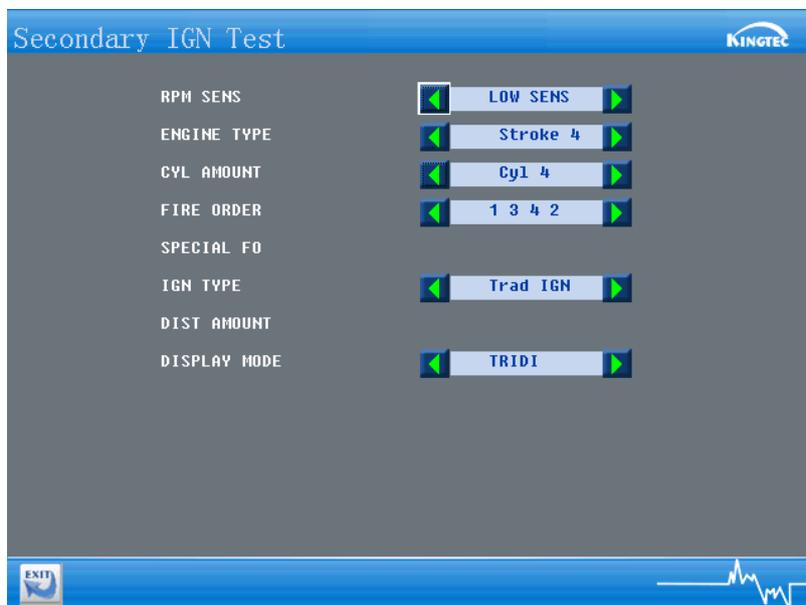

Fig. 5-5
5. Select ENGINE PARAMETER SETTING, press [ENTER] button, and screen displays as Fig.5-5;